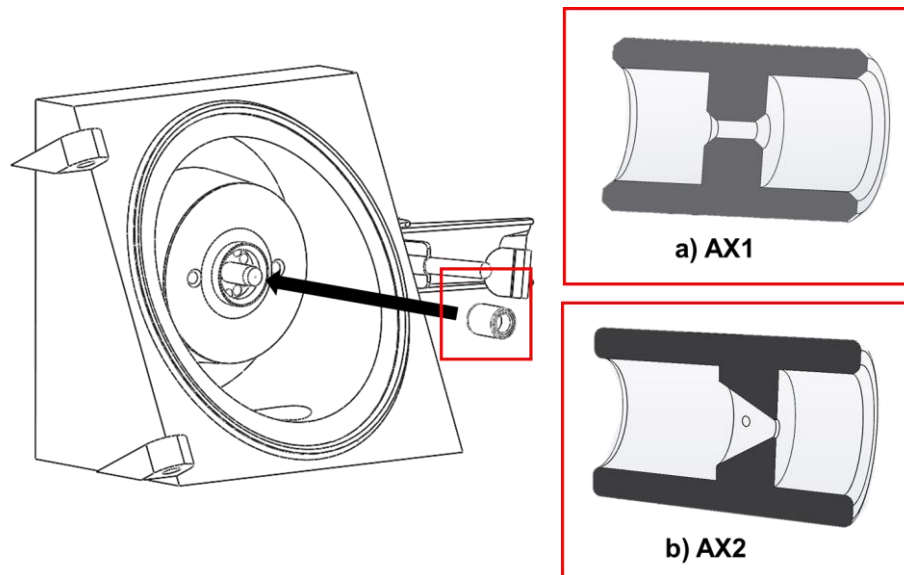

Figure 3: Installation of the ceramic spacer with orientation of a) AX1 and b) AX2 variant.
- Place the ceramic spacer on the resistive glass capillary (see Fig. 3). In case of AX2 make sure that the spacer is in correct orientation, having the side with the less deep bore facing towards you (see Fig 3 b).